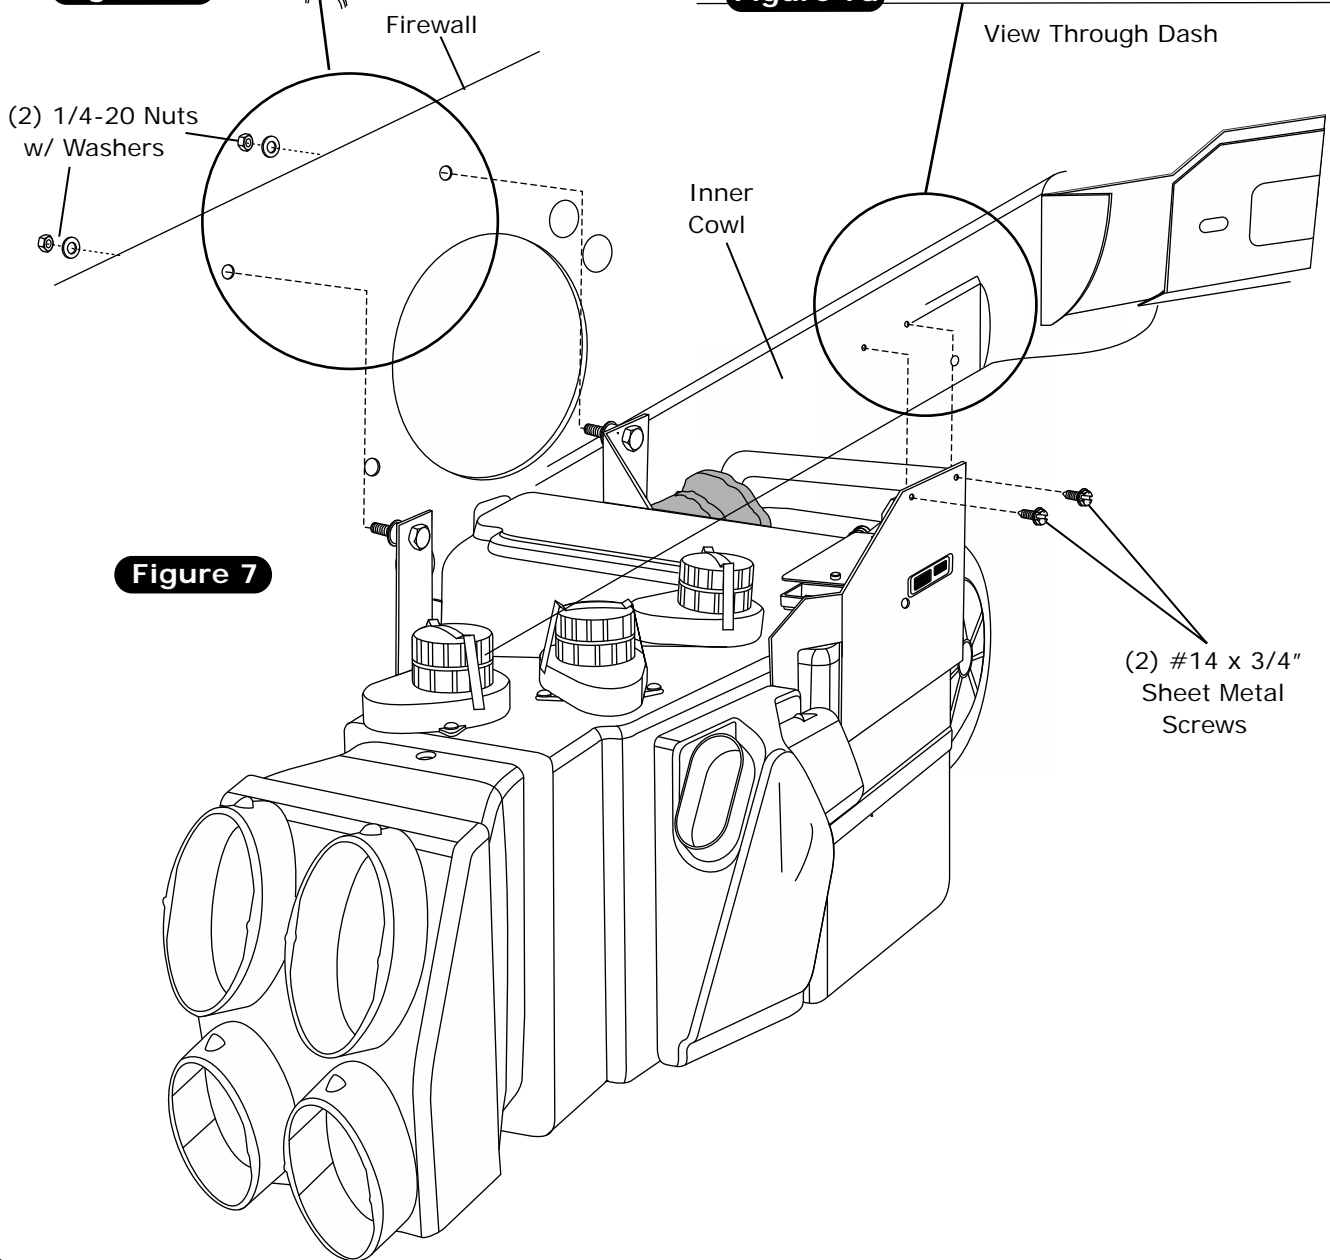

Figure 7
5. Lift evaporator unit up under the dashboard (See Figure 7, Page 10). Secure loosely to the firewall from the engine compartment side using (2) 1/4-20 nuts and washers (See Figure 7, Page 10).
6. Using (2) #14 x 3/4" sheet metal screws, secure the front evaporator mounting bracket to the inner cowl (See Figure 7, Page 10).